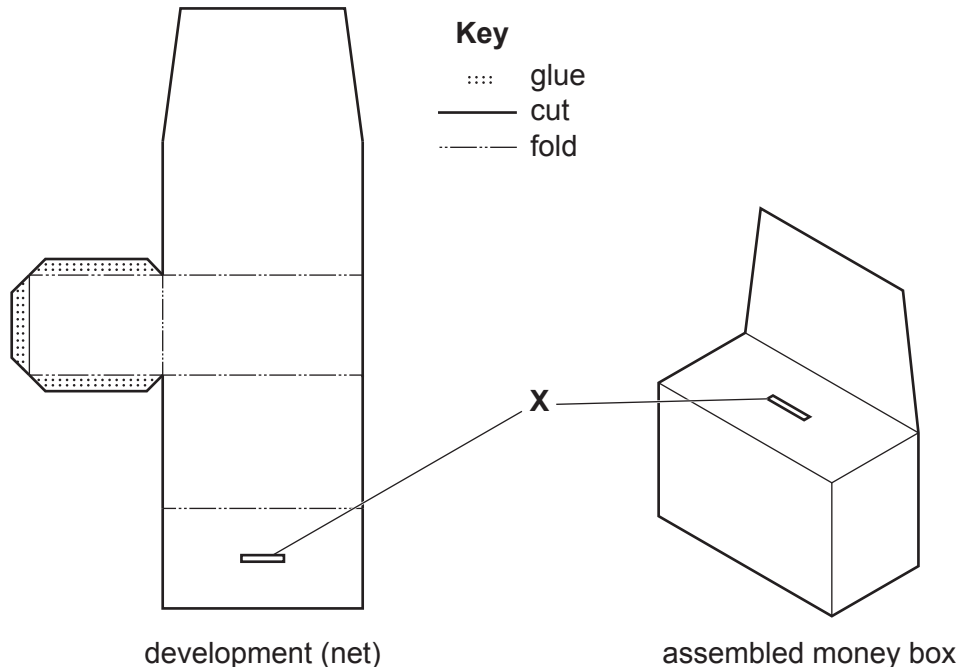

Fig. 4.1
- 4 Fig. 4.1 gives details of a money box made from card. The development (net) is folded into shape to make the money box.